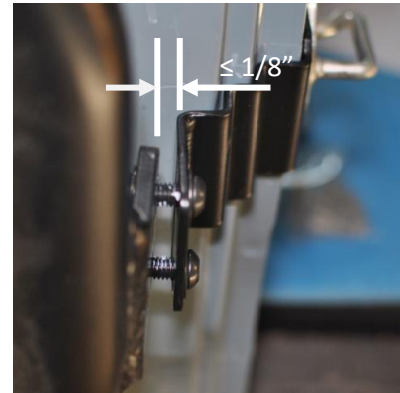

Figure 11: Gap Between Bracket and Product
- g. There should be a small gap at the center bracket before tightening (0-1/8"). If the gap is larger than 1/8", use the provided 1/8" washers as shims (PN 70448) to close the gap to $\leq 1/8"$ (See Figure 11).